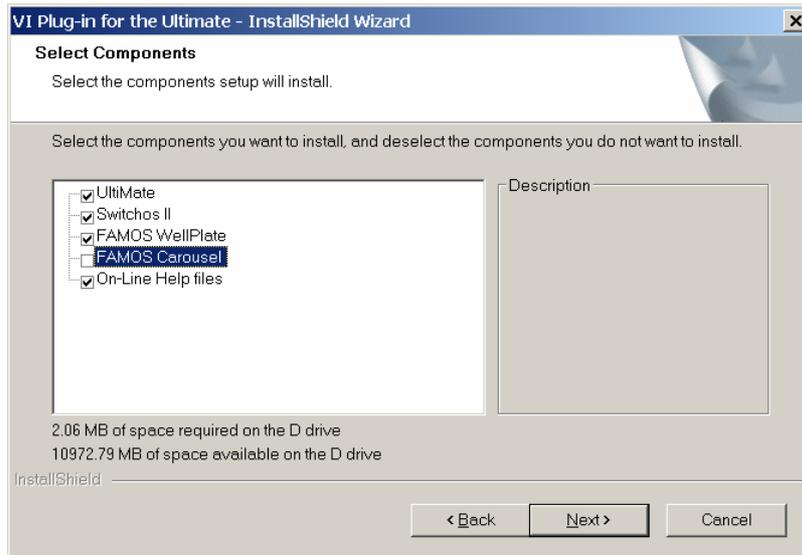

FIGURE 2-9 The Select Components Box for the UltiMate Components
- e) Click **Next** to open the 'Select Component' box. Check the instruments that are present in your instrument configuration (FIGURE 2-9).